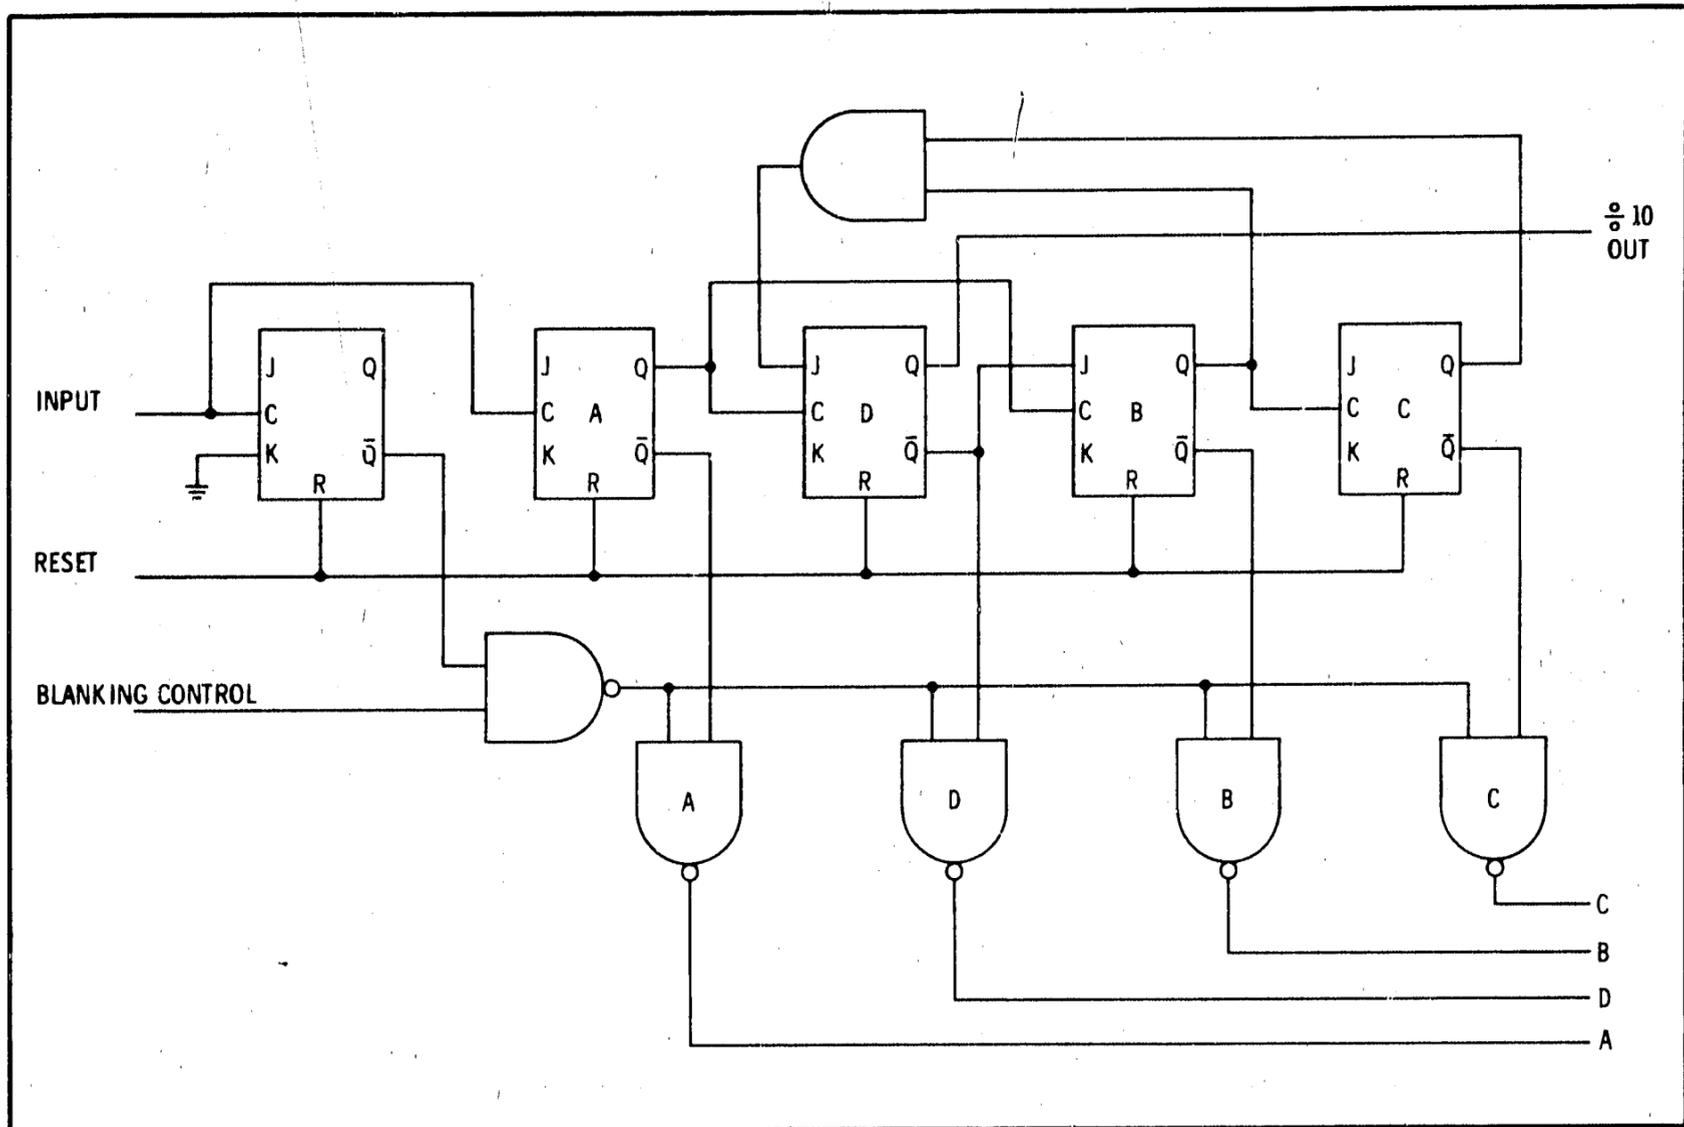

Figure 8-13. Blanking Decade Counter
8-48. Blanking Decade Counter. Figure 8-13 illustrates a blanking decade counter. The circuit will divide by ten and provide BCD (binary coded decimal) outputs for decimal numbers 0 through 9. In addition, the A, B, C and D outputs may be set to 1111 (15) to cause the numerical readout device to be blanked.